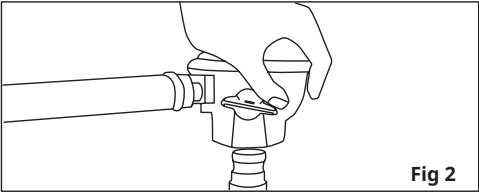

Fig 2
- The "Compact Quick-on" regulator handle is in the "off" position (Fig 2). Remove the seal cap from the cylinder valve, place the "Compact Quick-on" onto the valve and push down firmly and vertically. You should hear a "click" sound which means the regulator is securely latched.